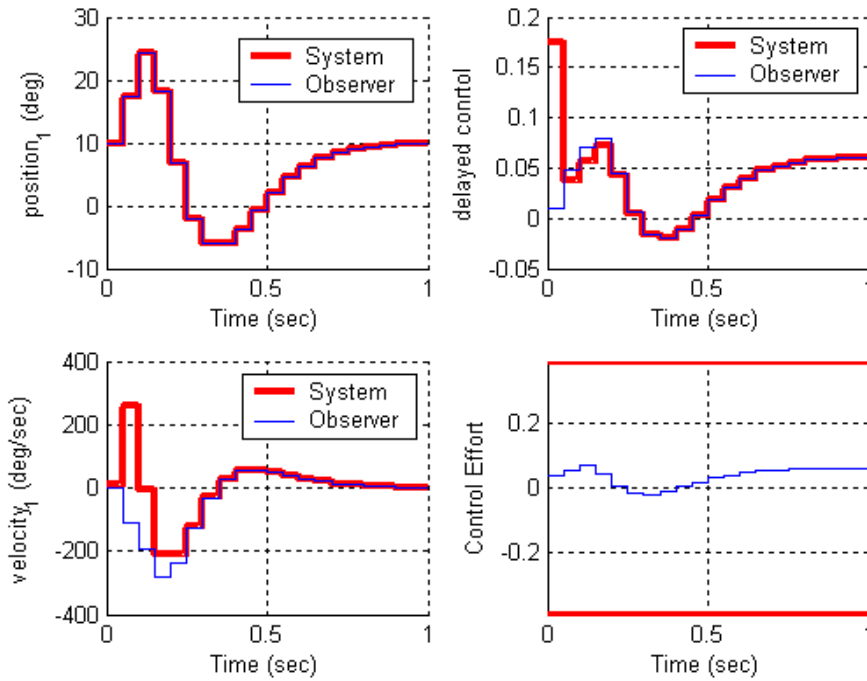

Figure 4. Results for problem **2b**.
b) Assume the only known state is the position, and the output is the position of the disk. Use a sampling interval of 0.05 seconds, assume all the state feedback poles are at 0.5, and the observer poles are at 0.2 and 0.3. Also assume the system initially starts at a position of 10 degrees, with an initial velocity of 10 degrees, and an initial delayed input of 10 degrees (be careful of units here! The model works in radians.). The initial estimates of the observer are zero. For a 10 degree step input you should get the graph shown in Figure 4. Turn in your plot.